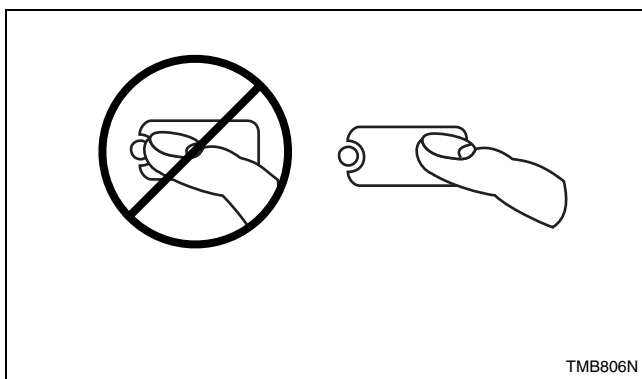

Figure 7
**NOTE:** Do not press directly on lights or the center of pad. For proper selection, press on pad slightly to the right of center. Refer to *Figure 7*.